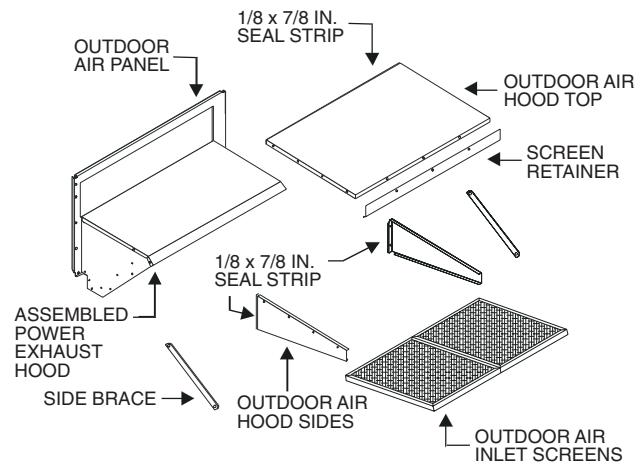

Fig. 24 — Outdoor Air Hood Assembly with Power Exhaust Assembly
4. Assemble the OA side panels, then top panel, to the OA panel. (See Fig. 24.)
5. Slide the OA inlet screens into the screen track on the hood side panels. While holding the screens in place, fasten the screen retainer to the hood. (See Fig. 24.)